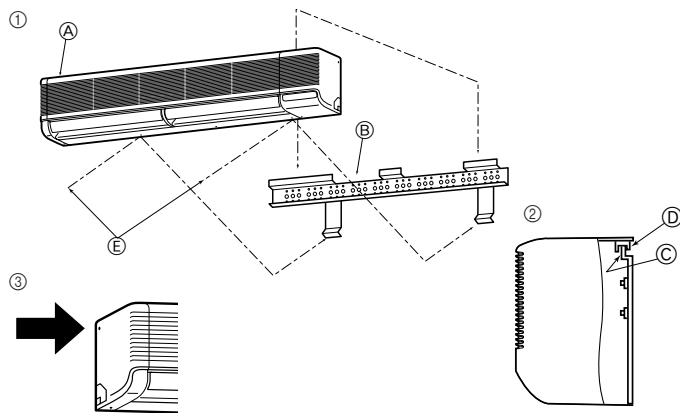

Fig. 3-11
3.4. Mounting the indoor unit (Fig. 3-11)
- ① Make sure to hang the metal catches of the indoor unit over the hooks of the wall mounting fixture.
- ② When the piping has been completed, use the securing screws to fix the indoor unit on the wall mounting fixture.